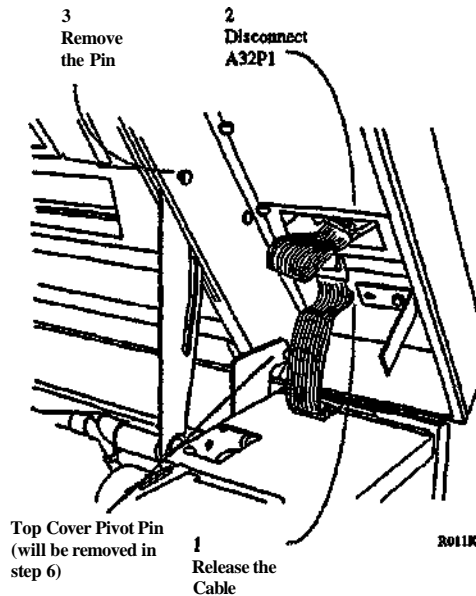
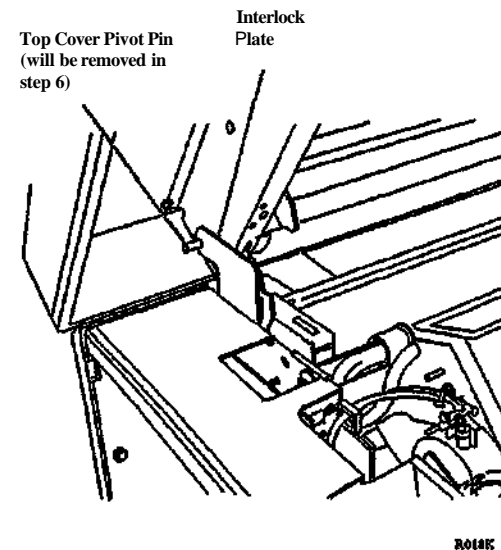

Figure 1. Preparing to Remove the Top Cover (Front)
Figure 2. Top Cover Interlock Plate
5. (Figure 1): Prepare to remove the Top Cover (Front).
NOTE: (Figure 2): Observe the way that the Top Cover Pivot Pin engages the hole in the Interlock Plate. This may be a difficult area during reassembly.
6. Close the Top Cover, open the Developer Module Cover, and remove the two pivot pins shown in Figure 1 and Figure 2.